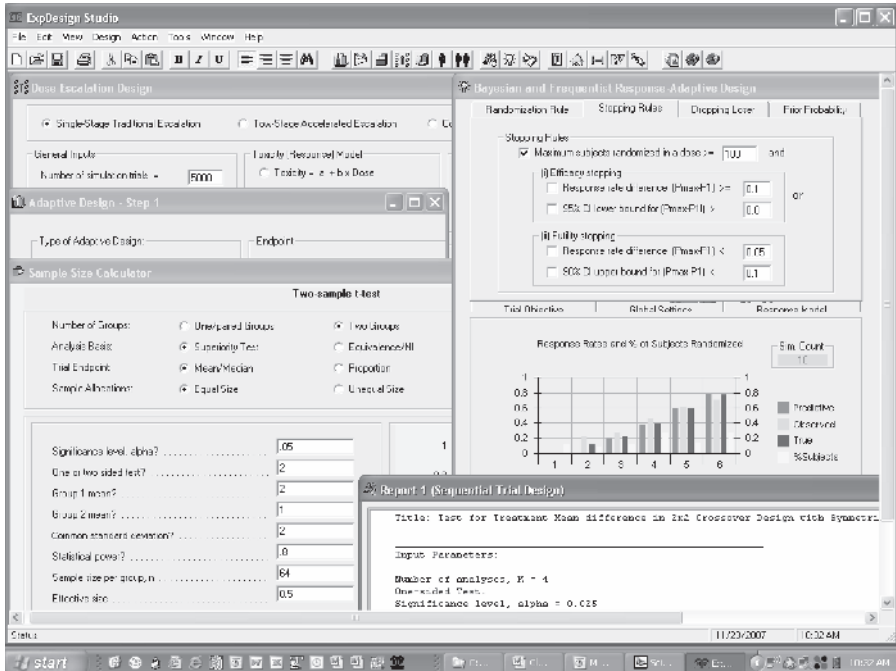

Figure 1.1 ExpDesign integrated environment.
ExpDesign Studio (ExpDesign) is an integrated environment for designing experiments or clinical trials. It is a powerful and user-friendly statistical software product that has seven integrated main components: classical design (CD), sequential design (SD), multistage design (MSD), dose-escalation design (DED), adaptive design (AD), adaptive trial monitoring (ATM), and dose-escalation trial monitoring (DTM) modules. In addition, the ExpDesign randomizer can generate random variates from a variety of distributions. The ExpDesign toolkit provides features for distributional calculation, confidence intervals, and function and data plotting (Figure 1.1).